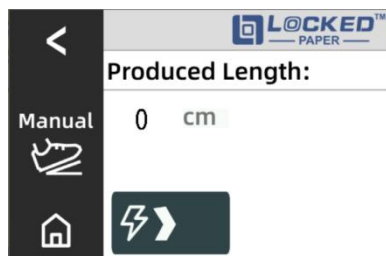

Figure 3.2
- 1) Click  on the Home page to enter the Manual mode interface (Figure 3.2);